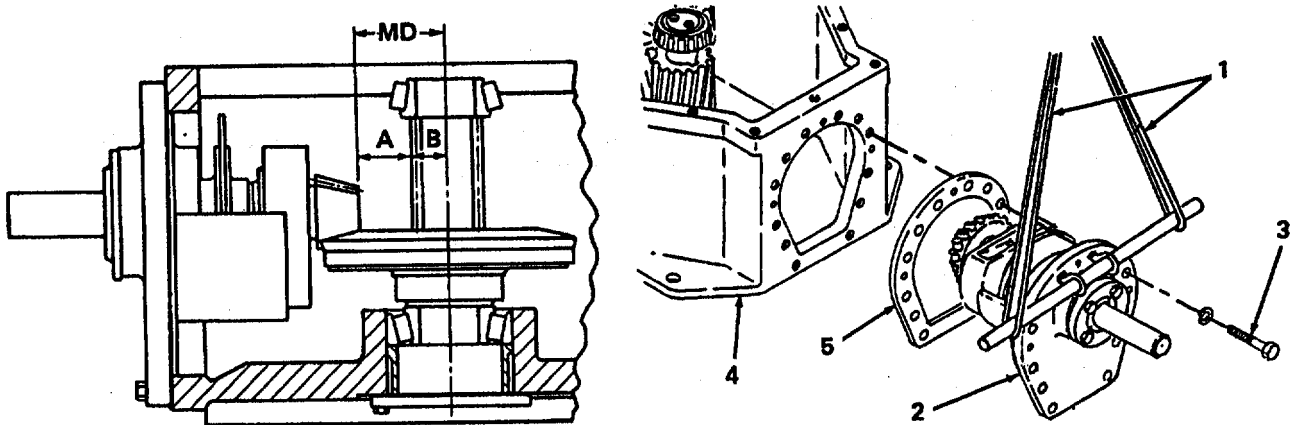

Figure 6-22. Calculating Thickness of High Speed Head Assembly Shim Pack.
- (e) With lifting sling (1, figure 6-22) in place on high speed head assembly (2), remove four mounting screws (3) securing assembly and carefully remove assembly from housing (4) just far enough to install shim pack (5).
- (f) Position shim pack (5) behind high speed head assembly (2), then refer to step 6, and reposition head assembly (2) in housing (4).
- (g) Install xx cap screws (3) securing high speed head assembly (2) to housing (4) and tighten screws to torque specified in Appendix G.